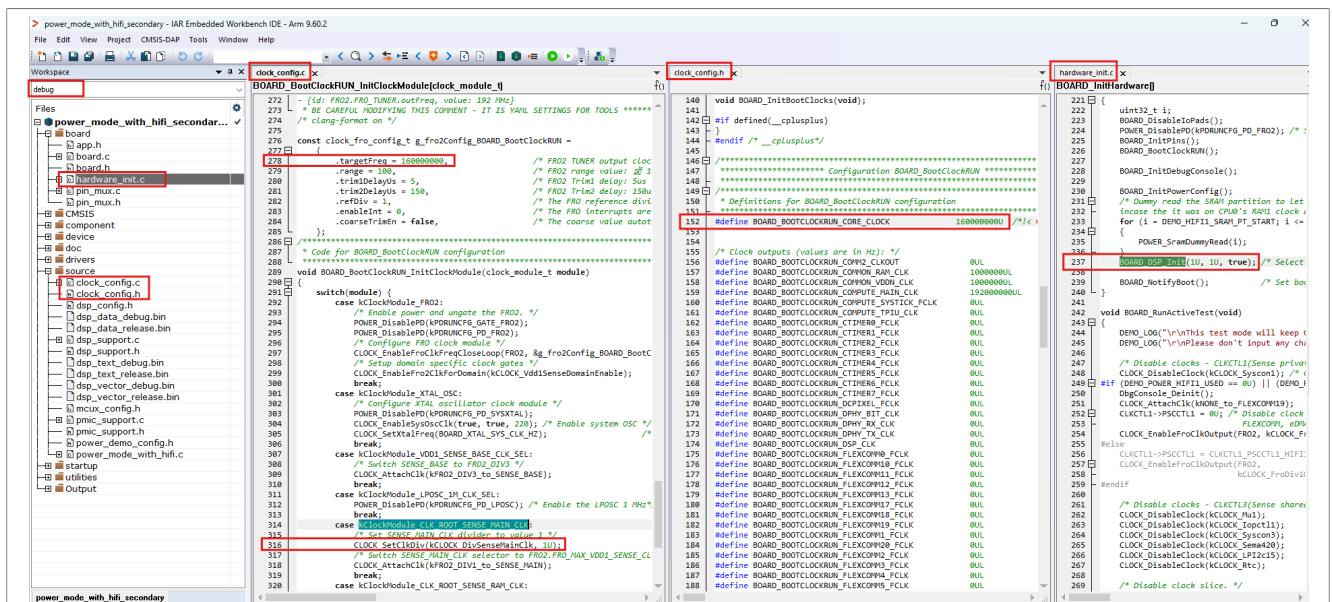

Figure 23. Changing SENSE_DSP_CLK frequency from 96 MHz to 160 MHz
7. Modify the SENSE_DSP_CLK frequency from 96 MHz to 160 MHz, as shown in Figure 23. Also, for SENSE_DSP_CLK frequencies of 100 MHz and 45 MHz, it is necessary to change the DSP clock divider to ensure that the FRO2 above 150 MHz.